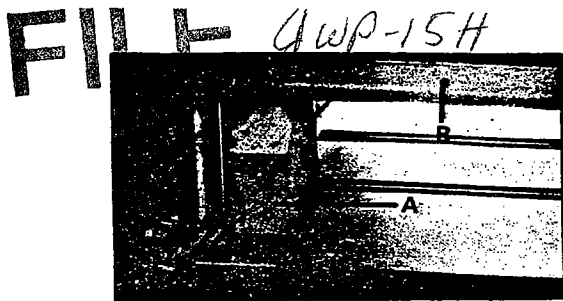

Fig. 33
2. Place gage block (A) Fig. 33, on table directly under front edge of head casting (B) as shown. Lower head casting until front edge of head casting (B) just touches gage block.